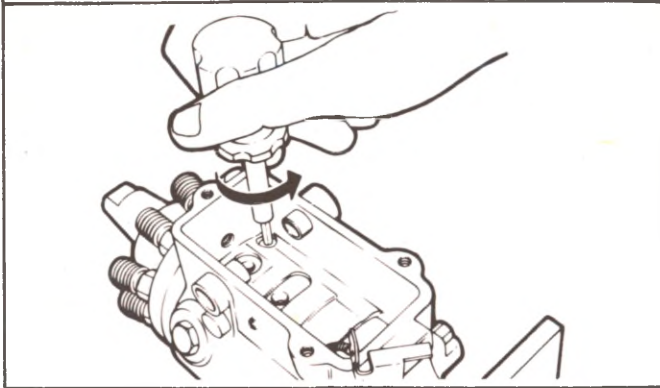

Fig. 3-15 Housing Vent Screw Assembly.
13. Remove the housing vent screw assembly. Figure 3-15.
12. Turn pump right side up and install housing vent screw assembly. Reverse the action shown in Figure 3-15.